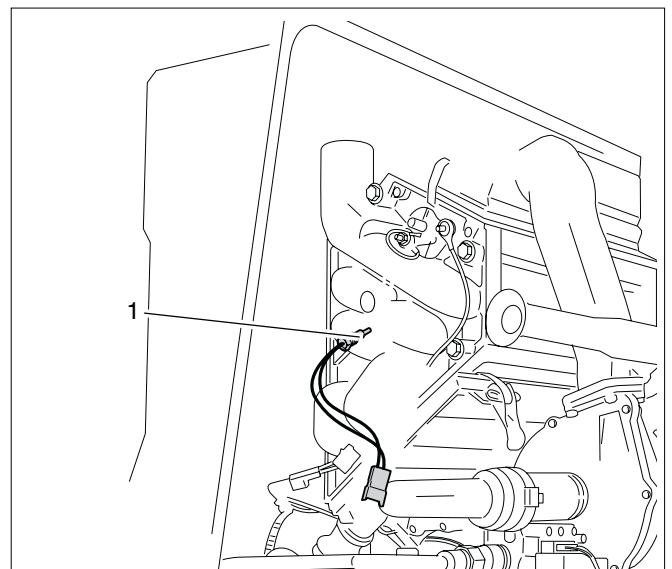

Fig. 125 Dismantling the safety sensor
- Dismantle the safety sensor (see fig. 125, pos. 1).